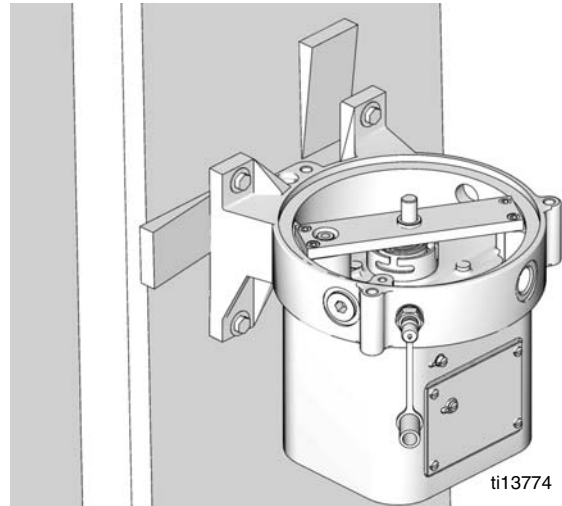

FIG. 1
- It may be necessary to support the reservoir. Washer shims (9 and 10) are included for use on the upper two mounting bolts (FIG. 1). Make sure reservoir is not misaligned and that the tie rods are not strained.
The example shown FIG. 1 is provided for reference only. Each installation is unique. It may be necessary to use additional shims or configure them in an alternate combination to provide sufficient support for the reservoir.